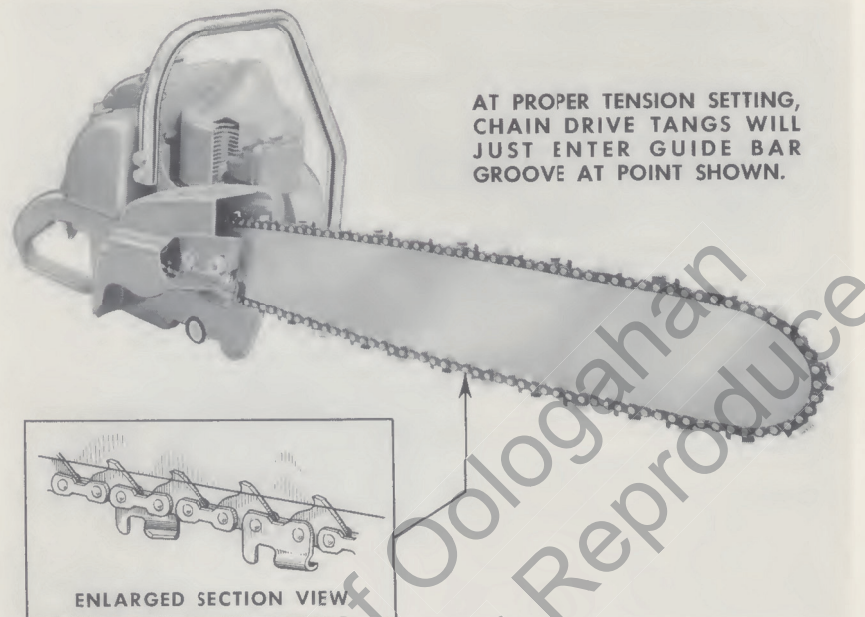

Figure 3—Adjusting Chain Tension
**d. Adjusting Chain Tension (See figure 3.)**
(1) Hold up the tip of the guide bar to take up the play between the studs and the mounting slot. The guide bar must be held in this position until the chain tension has been adjusted and mounting stud nuts have been tightened securely. Otherwise the guide bar will shift on the first cut, changing the tension.
(2) Turn the chain tension adjusting screw clockwise until the drive tangs *just* enter the guide bar groove at point shown in figure 3.
(3) At the same point shown in figure 3, grasp the chain between thumb and forefinger—pull it downward—then release.
(4) Once again turn adjusting screw clockwise until the drive tangs *just* enter the guide groove shown in figure 3. Now tighten the hex nuts to lock the tension device at this setting.
(5) New chains always stretch slightly during the first half hour of operation. Keep the new chain generously lubricated while breaking it in. Shut off the engine after every few cuts and check the chain tension. Readjust the chain tension if necessary.